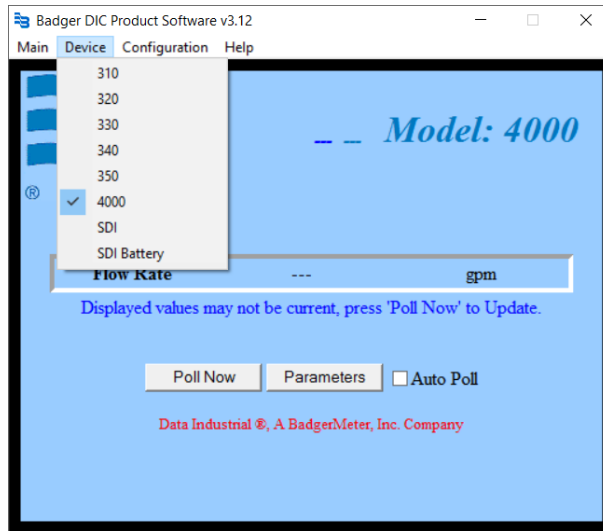

Figure 5: Select 340
4. Open the program and from the *Device* tab and select **4000** as shown in *Figure 5*.